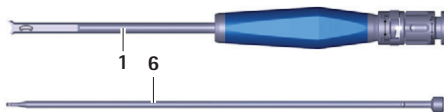

Fig. 12 Insertion instrument disassembled
- Remove the rod 6 from the tube 1, see Fig. 12.